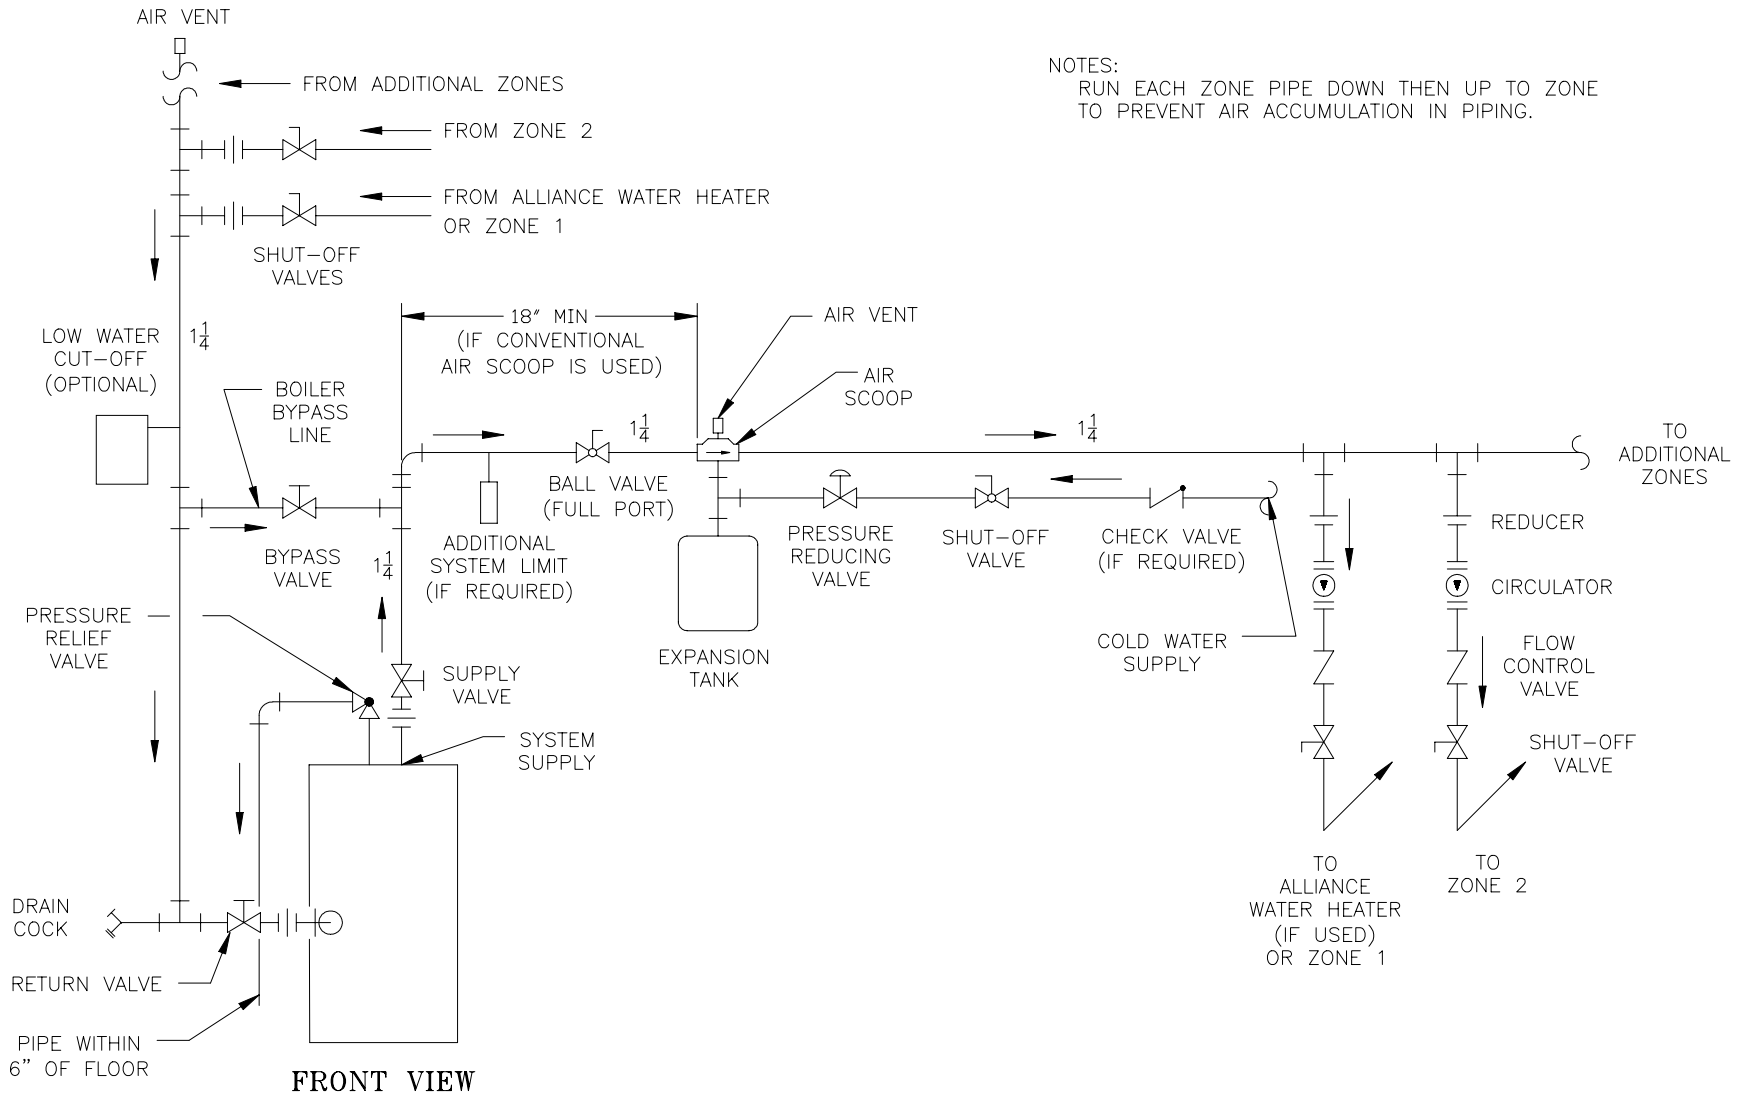

Figure 8: Recommended Boiler Piping for Circulator Zoned Heating Systems
3. Connect System supply and return piping to boiler. See Figures 8 and 9. Also, consult I=B=R Installation and Piping Guides. Maintain minimum 1/2
- B.** Install Pressure Relief Valve. See Figures 8 and 9. Pressure Relief Valve must be installed with spindle in the vertical position. Installation of the relief valve must be consistent with ANSI/ASME Boiler and Pressure Vessel Code, Section IV.
- C.** Install Drain Valve in return piping. See Figures 8 and 9.